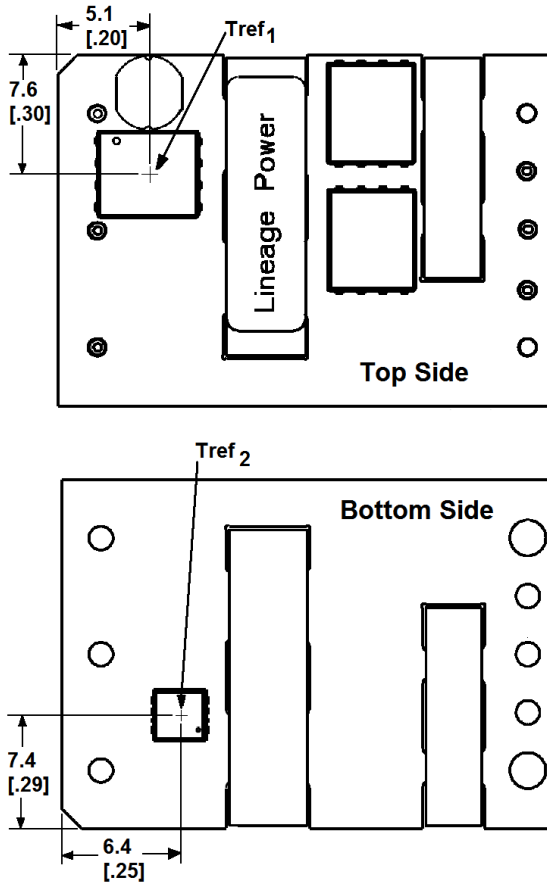

Figure 13. Tref_x Temperature Measurement Location.
To provide protection under certain fault conditions, the unit is equipped with a thermal shutdown circuit. The unit will shutdown if the thermal reference point T_{ref} (Figure 13), exceeds 128-133°C (typical) depending on T_A and airflow, but the thermal shutdown is not intended as a guarantee that the unit will survive temperatures beyond its rating. The module can be restarted by cycling the dc input power for at least one second or by toggling the remote on/off signal for at least one second. If the auto-restart option (4) is ordered, the module will automatically restart upon cool-down to a safe temperature.
The thermal reference points, T_{ref} , used in the specifications are shown in Figure 13. For reliable operation, the temperature of both T_{ref} points should not exceed 125°C.